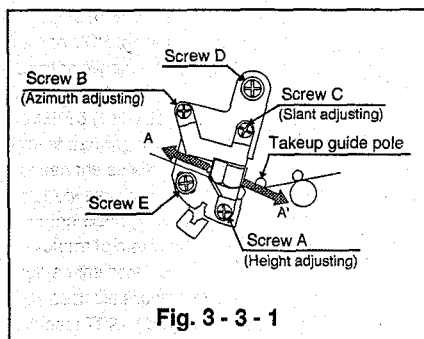
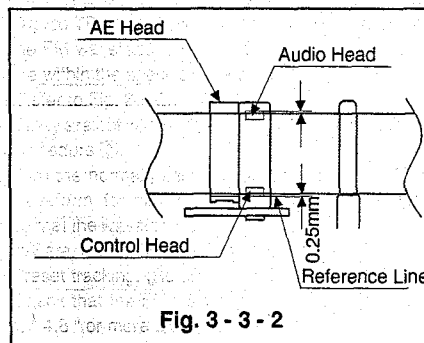

Fig. 3-3-1
Fig. 3-3-2
- ① If the height of the CTL head is different from the specified-value in Fig. 3-3-2, adjust the height by the adjusting screw A.
- ② If adjusting screw A is moved, repeat the procedure in Item 3-3-1 to adjust the A/C head Slant.
- ③ Connect the oscilloscope to the audio output terminal and set the VCR to the playback mode.
- ④ Playback the standard tape. [PM6KH3 : 859C339O30]
- ⑤ Turn adjusting screw B to adjust azimuth so that the audio output level is maximum. Set the scope for an amplitude of 5 divisions.
- ⑥ After the adjustment of ⑤, pull out the screw driver and check if the audio output level is 4.6 divisions or more, when the maximum level (audio output) of ⑤ was set for 5 divisions.
- ⑦ If the audio output level is below the specified value, repeat the procedure ①~⑥.
- ⑧ Push the A/C head to the right and left (in the direction of A and A' in Fig. 3-3-1) and then release the A/C head. Check that the audio output level does not change. (Do not push past the point where the audio output level is reduced by 3/4 of its maximum value.)
- ⑨ Set the VCR to the playback mode and check if the change of the audio output level is less than 2dB.
- ⑩ If the change is over 2dB, adjust the A/C head slant again and recheck.
- ⑪ If not satisfactory, replace the takeup tape guide complying with the following procedure and repeat this adjustment.